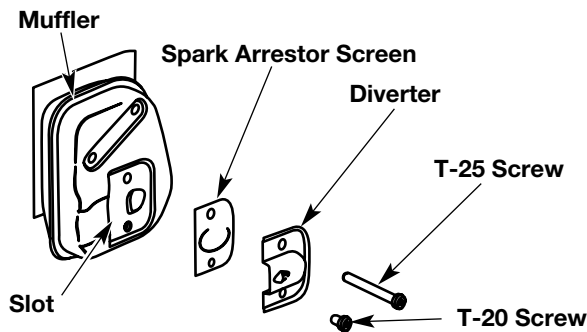

Fig. 41
2. With a flat blade screwdriver or Torx T-20 bit and a T-25 bit, remove the screws attaching the spark arrestor diverter to the muffler (Fig. 41).